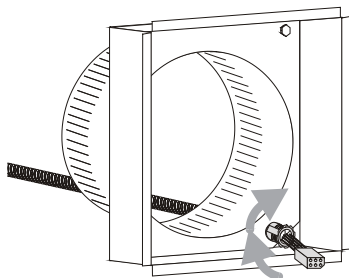

Figure 6. Fastening the conduit to the inner frame
2. Insert the conduit and wiring into the inner mounting frame on the bottom right of the frame. Install the Collar and ensure that the conduit can be fastened to the collar and inner mounting frame as shown in figure 6.